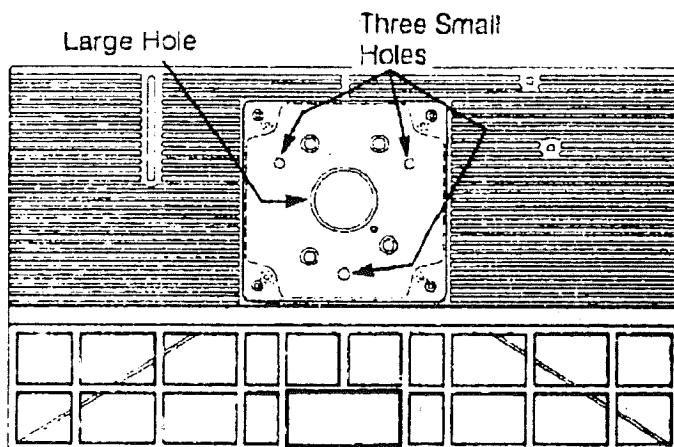

FIGURE 3.
2. Place the throat plate into the large opening in the table. The position of three small holes must be as shown in Figure 3.
2. Place the throat plate on a flat surface so that the locations of the holes are shown as in Figure 3.